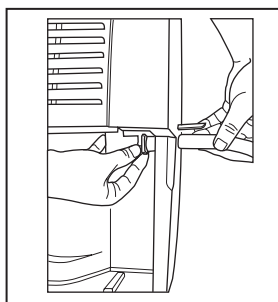

fig. 3
- e. Screw the garden hose onto the threaded portion of the tray underneath the bucket opening. (fig.3)